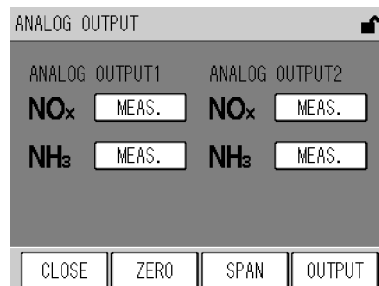

Fig. 55 ANALOG OUTPUT screen
- [ANALOG OUTPUT]: Displays the ANALOG OUTPUT screen (Fig. 55 on page 43).
5. Press the [CLOSE] key to return to the ANALOG OUTPUT screen (Fig. 55 on page 43).
5. **Press the [CLOSE] key to return to the ANALOG OUTPUT screen (Fig. 55 on page 43).**